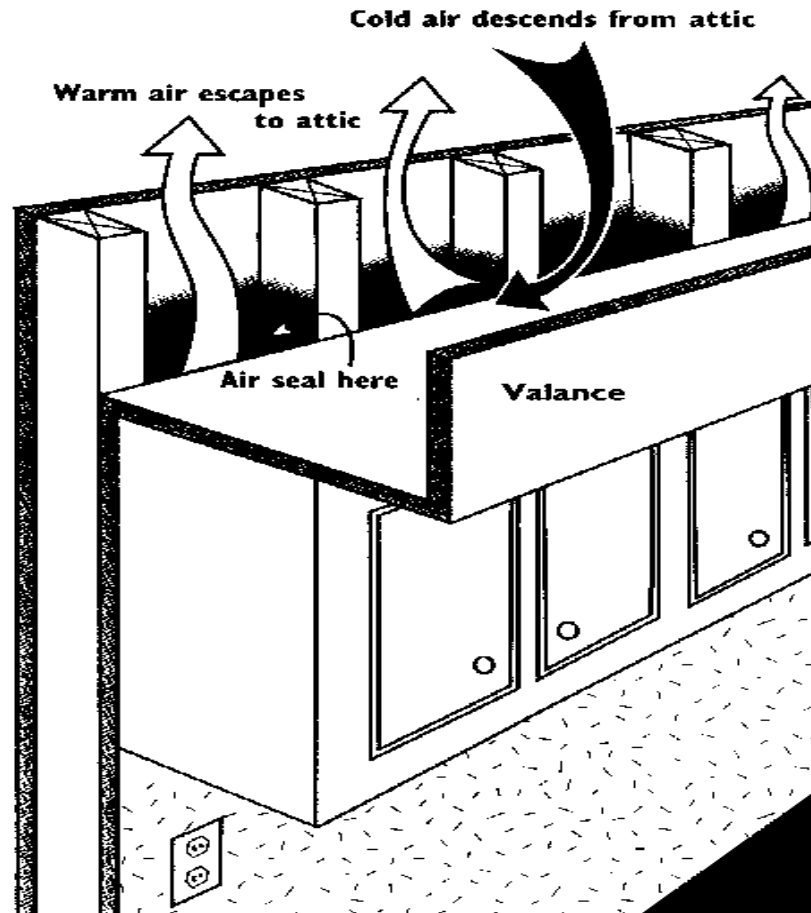

Figure 3: Kitchen Soffit
- **Kitchen Soffits (see Figure 3):**
The area above kitchen cabinets (often called the soffit or valance) is notorious for being a very leaky component in ranch style homes. The space enclosed by the soffit is often open to the attic and between the individual wall framing components. This lets heated indoor air escape to the attic and allows cold air from the unheated attic to enter the house. An easy method for air sealing this area is to stuff plastic bags with cellulose insulation, then stuff the bags in the appropriate areas (see Figure 3).